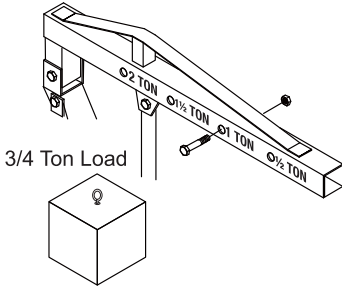

Figure 11
1. Locate the hole on the Boom with a weight limit higher than the weight you will be lifting. **For example: Locate the 1 TON hole on the Boom for a load that is under one Ton. See Figure 11.**